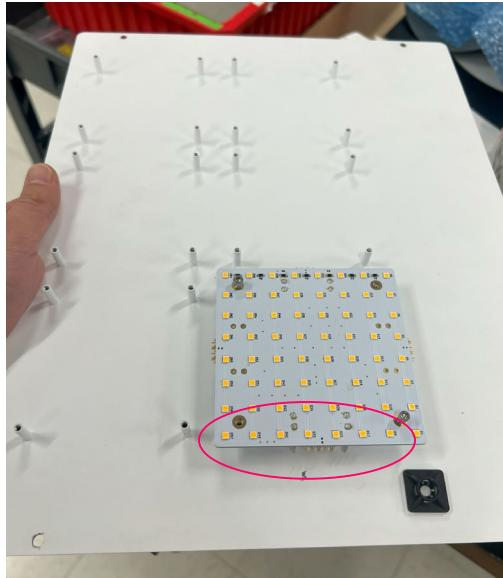

Figure 19: First board orientation and mounting. The pink circle shows the location of the blade connectors, which is the power input to the boards.
2. Take one board that has the tab connectors and mount it using M3 screws as shown in Figure 19. Orient the tabs so that they point towards the side edge of the ceiling panel (or towards the edge where there is a large gap between the edge and the mounting holes).